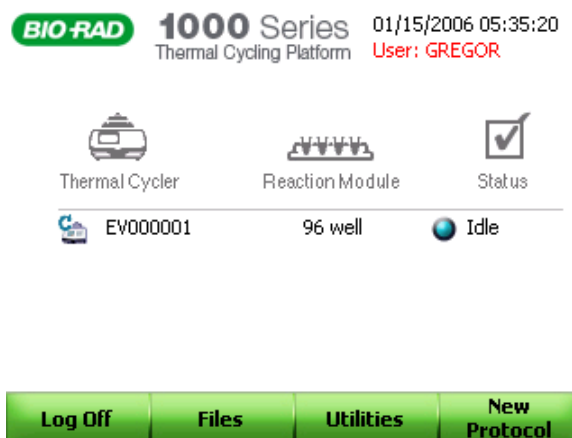

Figure 108. Select Log Off in the main menu to log off the thermal cycler.
4. To log off the thermal cycler, press **F1** or select **Log Off** in the main menu (Figure 108).